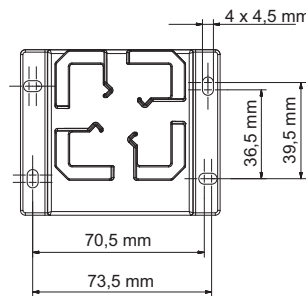

Fig. 2
2. Mark the holes for mounting studs on the wall according to the dimensions shown in Fig. 2 or by holding the mounting base to the wall